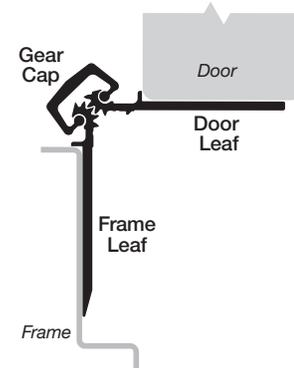

Fig. 1 Door Closed Position
- A. Keep hinge in "door closed" position (Fig. 1).